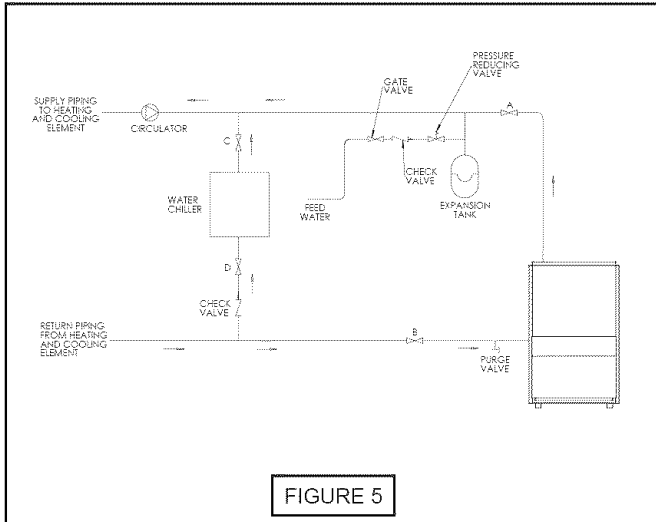

FIGURE 5
1. Connect supply and return piping as suggested in Figure 5 when the boiler is used in connection with refrigerated systems.